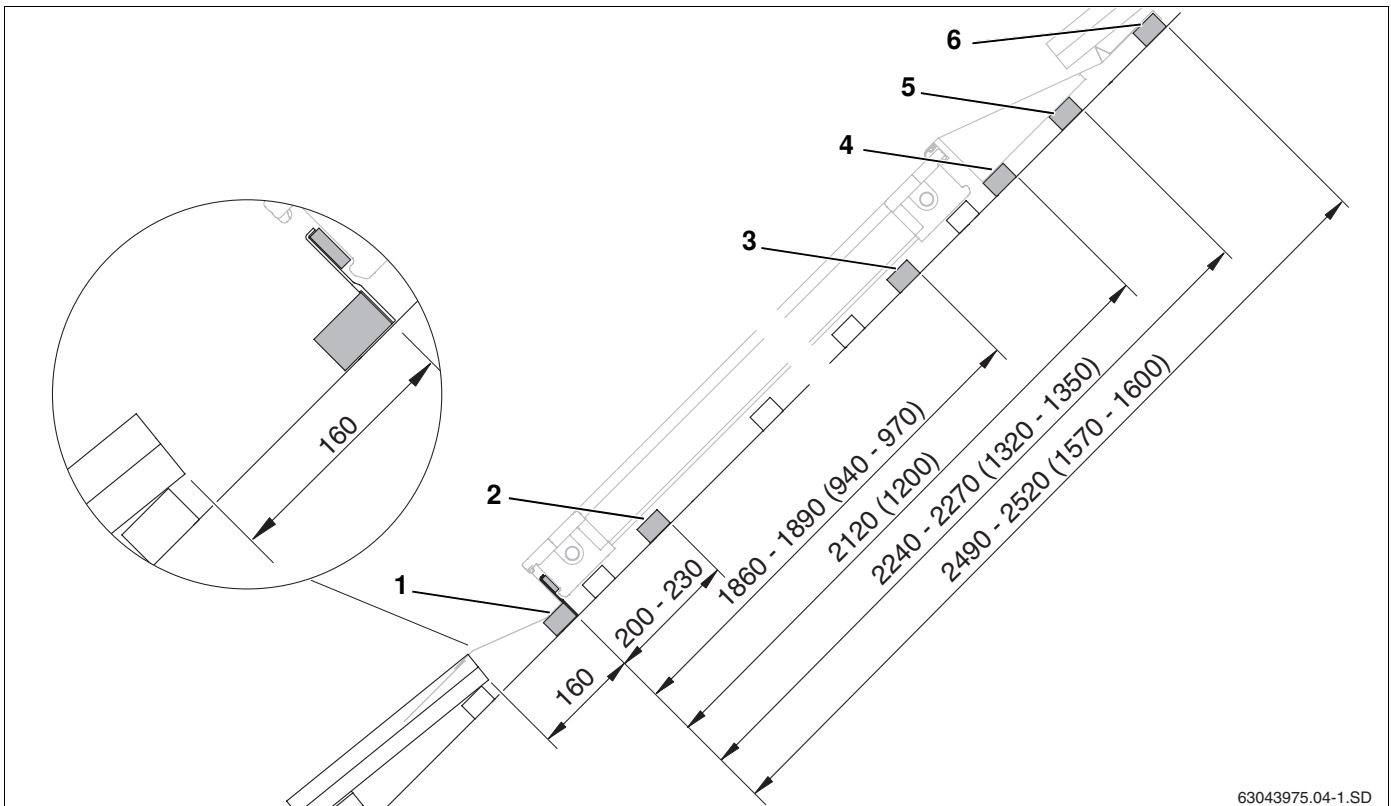

Fig. 14 Distances between additional roof battens when installing one row (measurements in mm, values in brackets = landscape version)
- Attach first roof batten with the anti-slip protection devices (Fig. 14, **Item 1**).
- Attach second roof batten for the lower side clamp (Fig. 14, **Item 2**).
- Attach third roof batten for the upper side clamp (Fig. 14, **Item 3**).
- Attach fourth roof batten for supporting the polystyrene wedge of the upper facing collectors (Fig. 14, **Item 4**).
- Attach fifth roof batten for supporting the upper facing collectors (Fig. 14, **Item 5**).
- Attach sixth roof batten for supporting and fastening the upper facing collectors (Fig. 14, **Item 6**).
When installing more than one row, the roof battens in the first row must be laid just as if you were installing one row (Fig. 14). The 5th and 6th batten for the lower row are not needed.